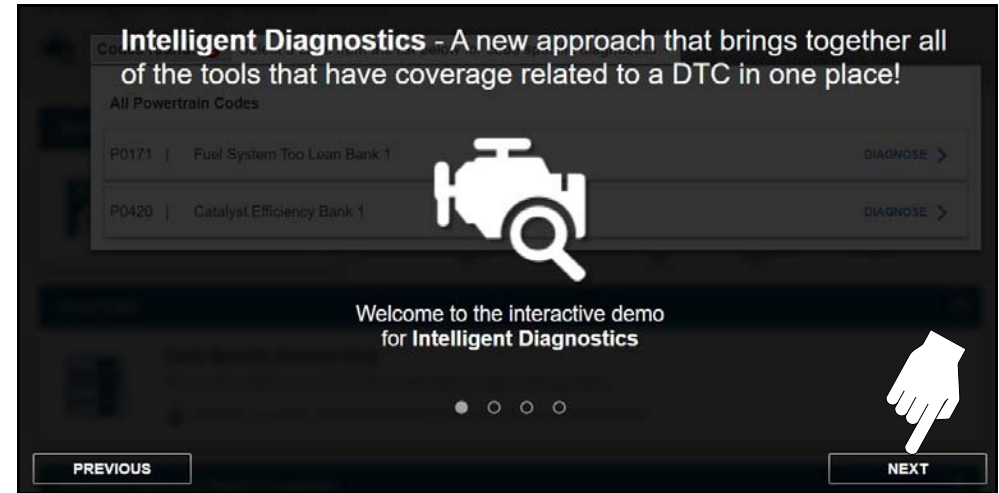

Figure 4-50 Intelligent Diagnostics Demo Welcome
3. Select **Next** on the Intelligent Diagnostics demo start screen (Figure 4-50), and the following screens to continue.